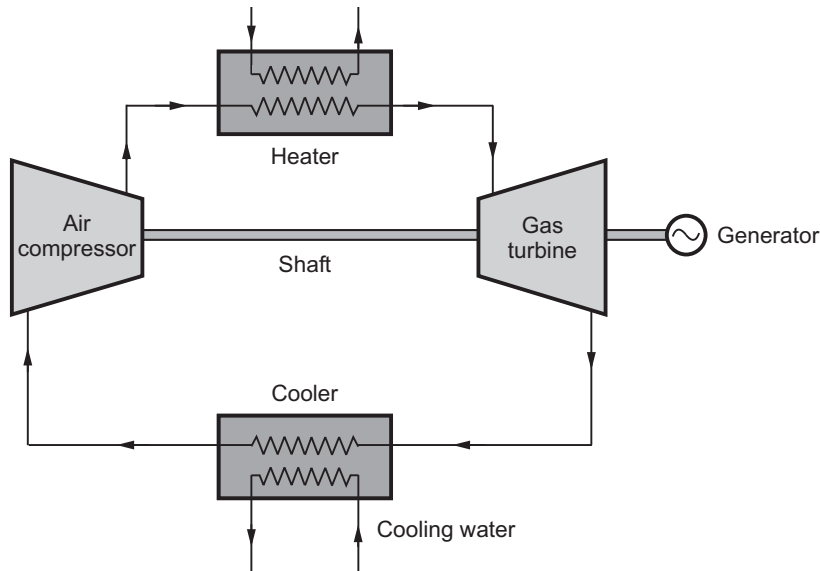

**Fig. 3.4 : Open cycle constant pressure gas turbine**
- An open cycle constant pressure gas turbine is shown in Fig. 3.4.